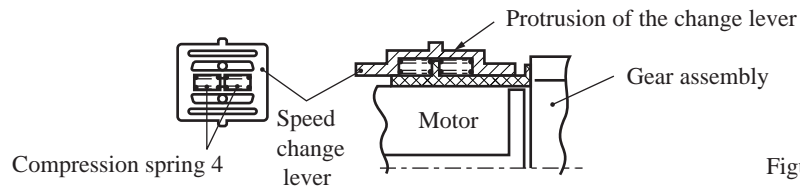

Figure 3
- 2) Mount the speed change lever on the protrusion of the change lever as shown on the figure 3 while using care so that the compression spring 4 may not be jumped out.